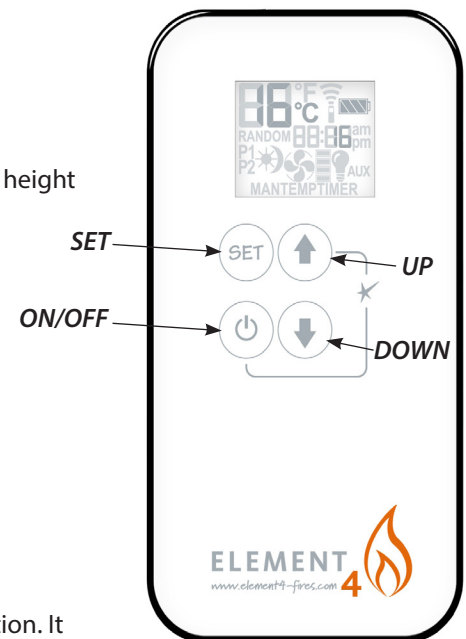

Figure 30 Remote Control
6. Place the three AAA batteries into the remote control and confirm that it will communicate with the receiver by pressing the **ON/OFF**. (See Figure 30) If necessary pair the remote and receiver.